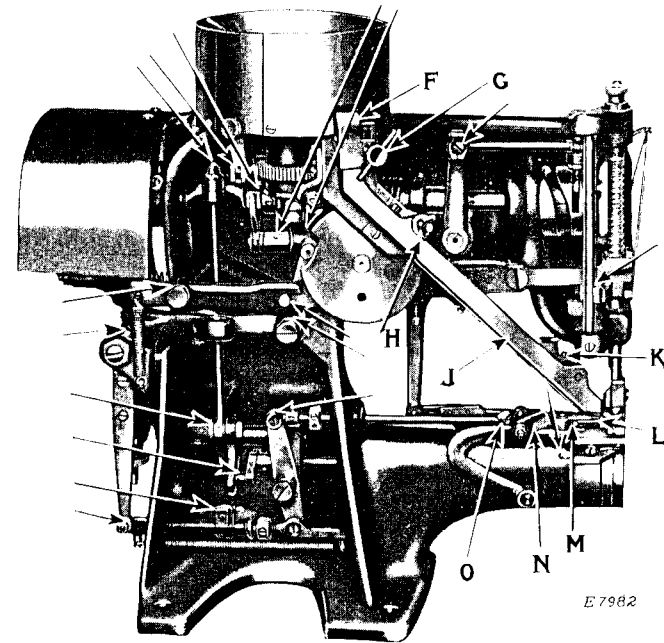

FIG. 3. OILING POINTS AND ADJUSTMENTS AT THE LEFT OF THE MACHINE
If the buttons do not pass freely from the hopper into the button chute, loosen the thumb screw (G, Fig. 3) and raise or lower the button guide (F, Fig. 3), as may be required, then firmly tighten the thumb screw (G).
The button chute can also be adjusted to accommodate different sizes of buttons by opening or closing the button chute cover (J, Fig. 3) by means of the two thumb screws and lock nuts (H and K, Fig. 3), on each side of the button chute.
Care must be taken to see that the retaining spring (L, Fig. 3) which holds the head of the button in the correct position, is in the slot at the end of the button carrier, to prevent the buttons dropping out of the end of the button chute.
To adjust the button carrier (M, Fig. 3) to suit the size of button being sewn on, loosen the thumb screw (O, Fig. 3) and raise or lower the cam (N, Fig. 3), as may be required, then securely tighten the thumb screw (O).